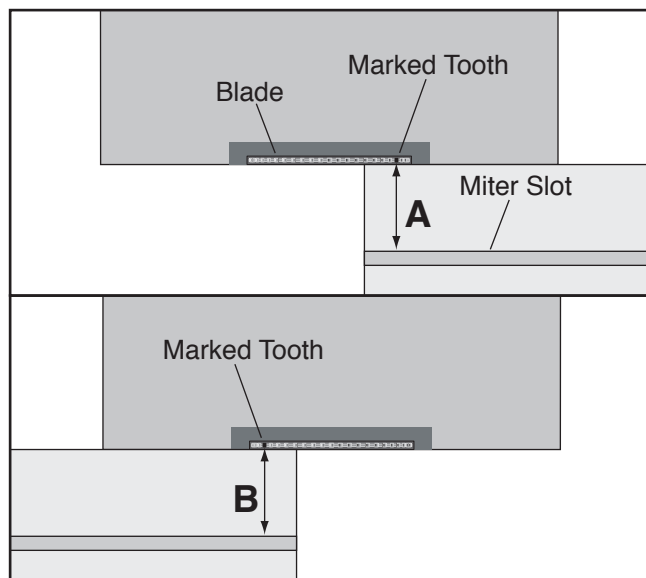

Figure 158. Measuring distance between miter slot and blade at each end of sliding table.
4. Move sliding table all the way forward, and measure distance “A” shown in **Figure 158**, which is between marked blade tooth and edge of sliding table miter slot.
5. Rotate blade 180°, move sliding table all the way back, then measure distance “B” shown in **Figure 158**.